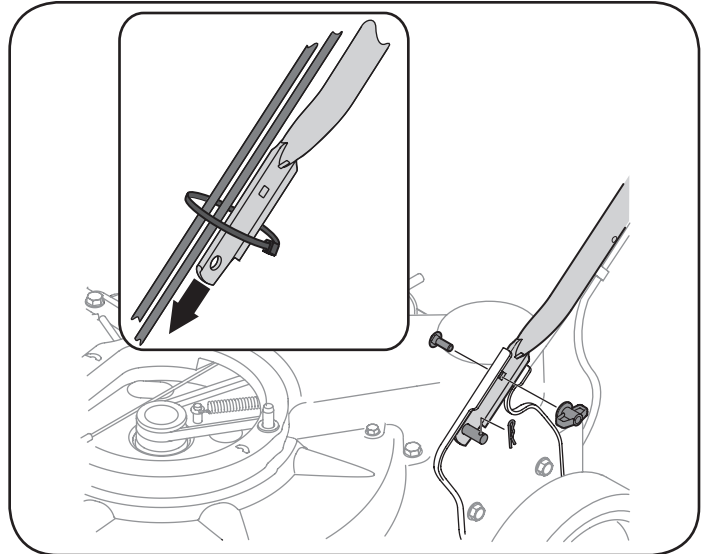

Figure 2
- a. Place the bottom holes in lower handle over the pins on the handle brackets and secure with hairpin clips. See Figure 2.
- b. Insert carriage screws through upper hole in lower handle from the inside and secure with wing nuts. See Figure 2.